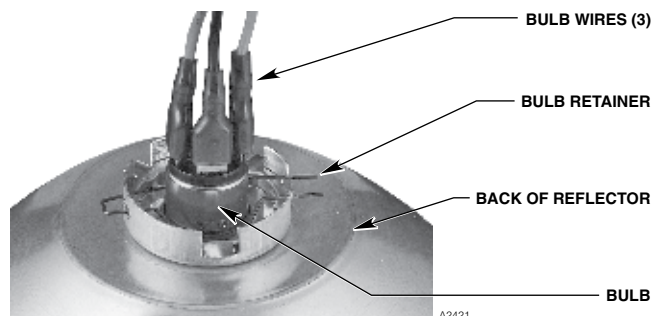

Figure 7—Bulb Removal
5. Open the bulb retainer to release the bulb. (Push the wire prongs together and pull up to release bulb.) See Figure 7.